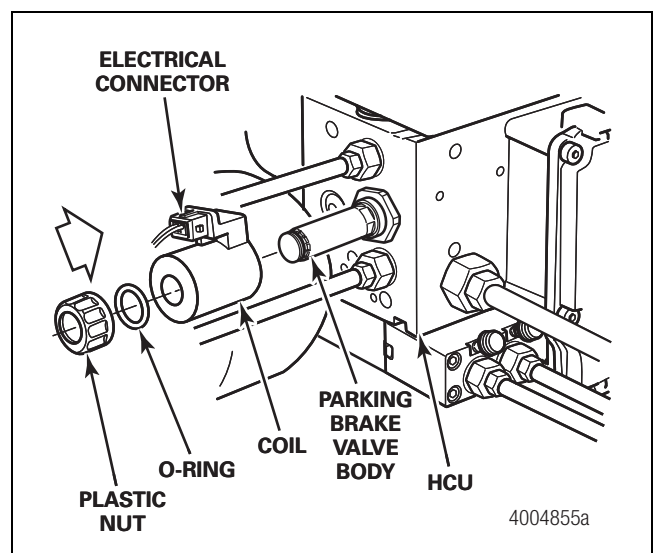

Figure 4.58
4. Position the new pressure supply valve onto the hydraulic compact unit. Use a socket, Snap-On Tools part number A121, to tighten the valve to 27-34 ft-lb (40-50 N•m). Figure 4.58.
6. Attach the electrical connector to the parking brake valve. Figure 4.58.